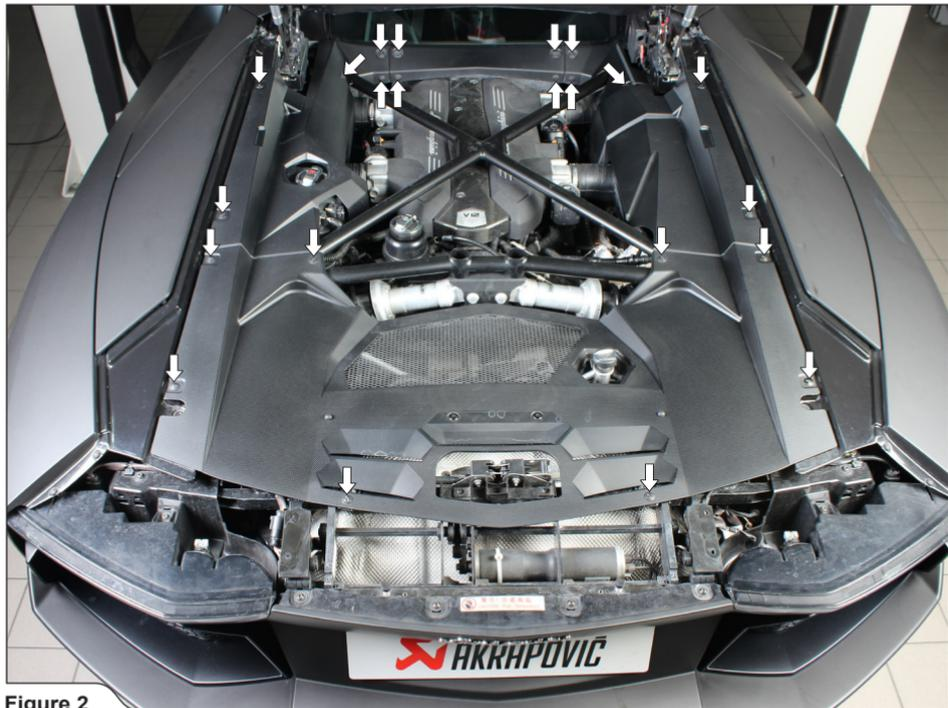

Figure 2
2. Unscrew the marked bolts and remove the engine compartment cowlings (Figure 2, 3).